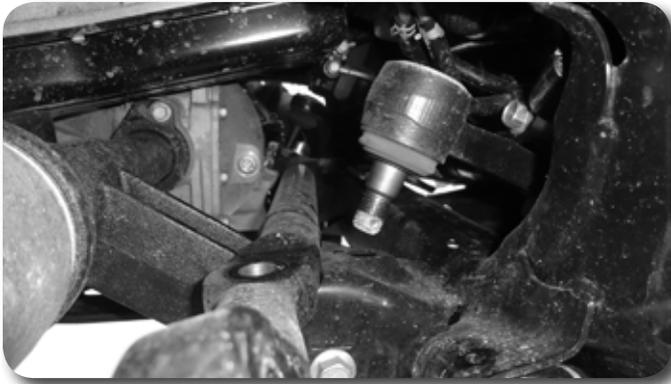

Figure 8
12. Once both tapers are released, remove the centerlink from the vehicle **Figure 8**.